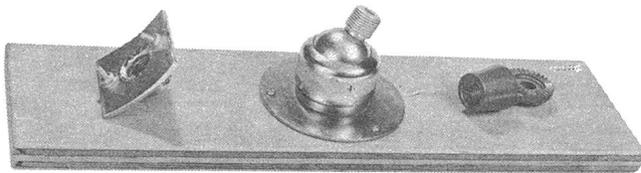

Figure 77 (Left) - GB-9392 Speaker Adapter
4.25 The GB-9392 speaker adapter is a small flange curved to fit the S-2 and S-4 loudspeakers. It has a 1/2" pipe connector welded in the center and comes equipped with two bolts, two nuts, and two lockwashers for fastening on the speaker housing. It is to be used with the GB-9393 mounting bracket. (Figure 77)
4.26 The University SPA adapter is a serrated swivel-mounted bracket threaded for 1/2" pipe. It is to be used with the IB8 speaker to mount on the GB-9393 mounting bracket. (Figure 77)
4.27 The GB-9393 mounting bracket consists of a flange for mounting on wall or ceiling. It has a ball-joint swivel upon which a 1/2" pipe nipple is fastened. The ball joint allows a 120° adjustment in position of speaker. Designed for use with the GB-9392 speaker adapter or the University SPA adapter. (Figure 77)